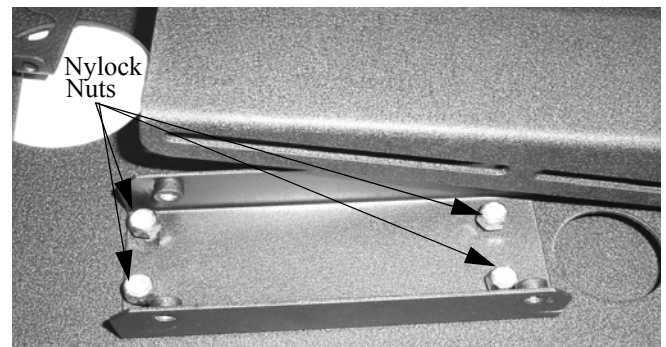

Figure 6. Roll Adjustment
1. Loosen the four 5/16-18 Nylock nuts (see Figure 6).